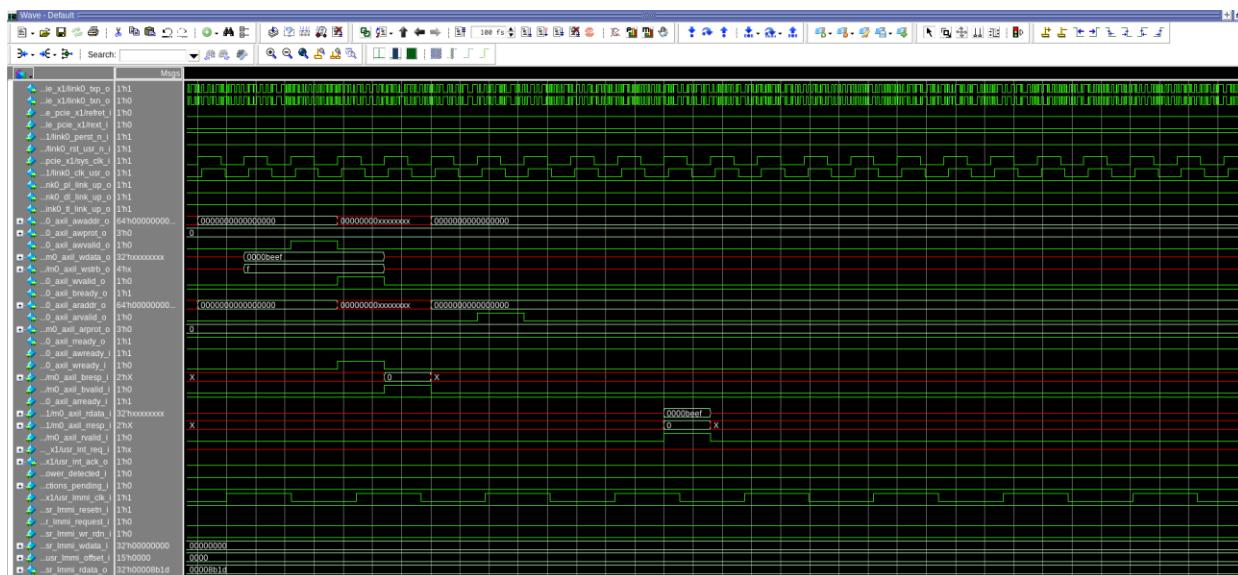

Figure 6.17. Simulation Waveform
11. The simulation run completion is indicated by *SIMULATION STATUS* of *ALL TESTS PASS* or *ERRORS DETECTED* in the QuestaSim transcript window. Figure 6.17 shows the example of a simulation waveform.